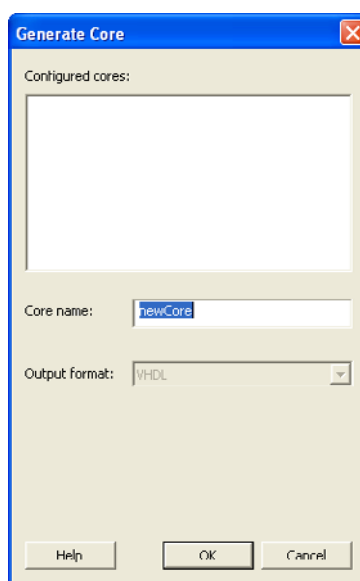

Figure 2-7 · Generate Core Dialog Box
17. Click **Generate**. This brings up the Generate Core dialog box (Figure 2-7).